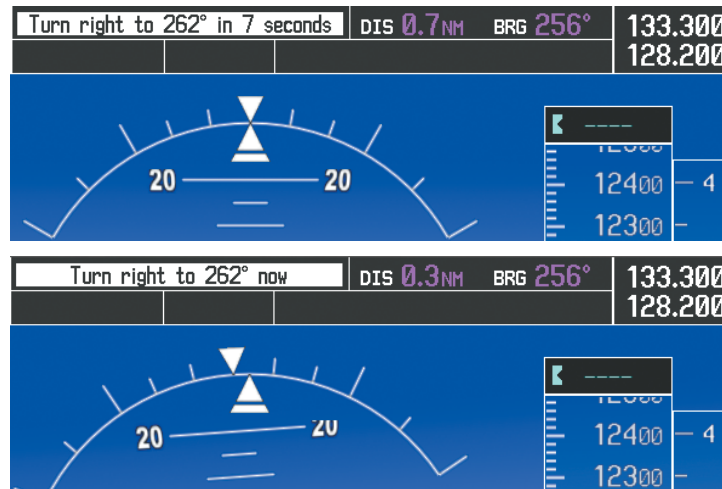

Figure 5-124 Turn to Intercept V244
8) At SLN, Victor Airway 244 (V244) is intercepted. Turn prompts are displayed in the PFD Navigation Status Box as seen in Figure 5-124.